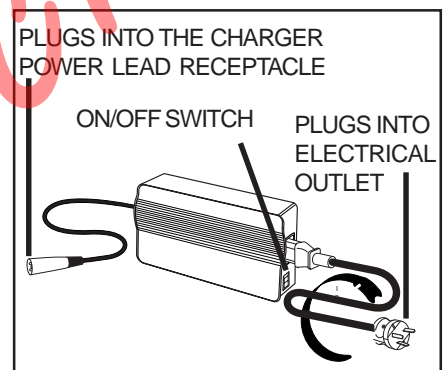

Figure 8B. Off-Board Charger
6. Extend the charger power lead and plug it into the electrical outlet. See figure 8B.
7. Turn the charger on. See figure 8B. It is recommended that you charge your batteries for 8 to 14 hours.